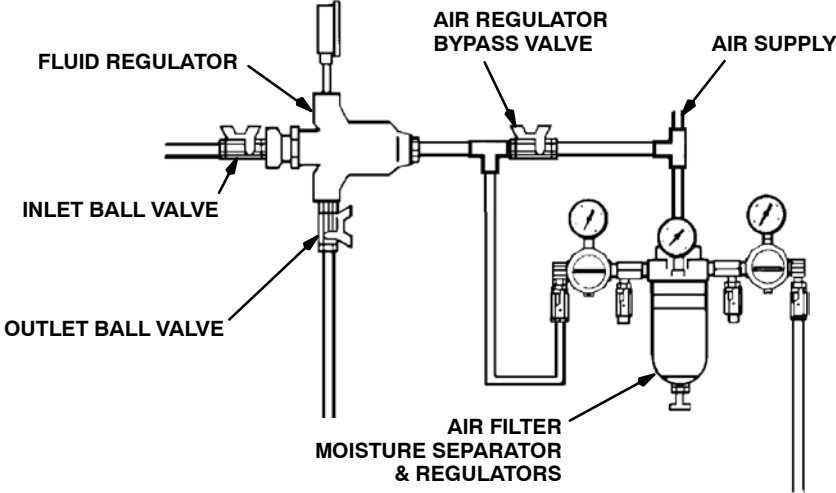
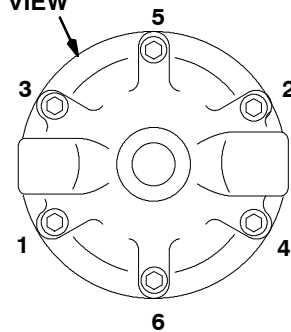

Fig. 2
Fig. 4
1. Start the pump and open the fluid regulator's inlet ball valve to admit fluid to the regulator. See Fig. 2.
**NOTE:** Make sure the air bleed hole in the air line fitting (29) is not plugged. Refer to page 12.
2. Close the ball valve at the regulator's air inlet. Refer to Fig. 2.
5. Remove the swivel union (23) and spring (40) from the regulator body.
6. Remove the ball (20), seat (16), and gasket (15). See Fig. 4.
10. Remove the spring (3), valve stem (9), and gasket (21) from the stem housing (18).
12. Place stem housing (18) in a vise. One at a time, place the gasket (26), diaphragm (22) - *white PTFE side down toward the bottom housing*, and washer (17) on the stem housing (18). Secure them with the jam nut (13). Torque the jam nut onto the stem housing to 21-35 ft-lb (28-47 N•m).
13. Install the valve stem (9), spring (3), gasket (21), and retaining screw (10) in the stem housing (18). Make sure the tab on the valve stem (9) fits into the slot on screw (10).
15. Install the assembled parts in the housing (6).
16. On Model 214980, tighten the air line fitting (29) into the cap (7). Torque to 20-25 ft-lb (27-34 N•m).
17. Install the cap (7). Tighten the six cap screws (1) in the sequence shown in Fig. 4, **Bottom View**, and to the torque noted.
18. Install the gasket (15), valve seat (16), and ball (20) into the housing (6).
19. Screw the swivel union (23), with the o-ring (4) attached and the spring (40) in place, into the inlet. Torque to 23-27 ft-lb (31-36 N•m).